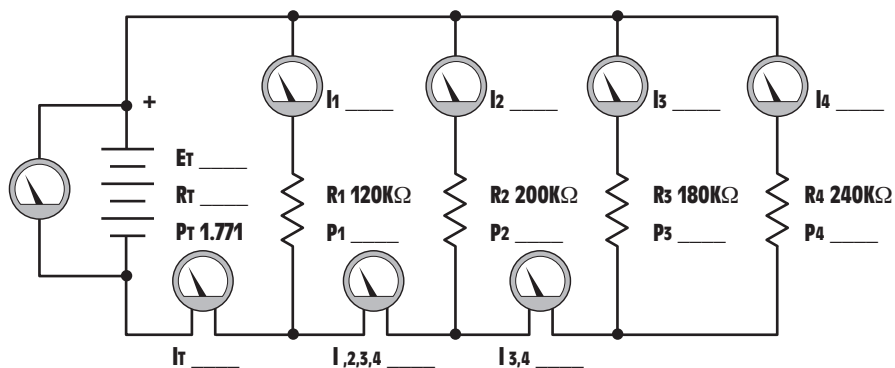

Figure 6-27 Practice Problem 2.
2. Find the missing values in the circuit shown in *Figure 6-27*.